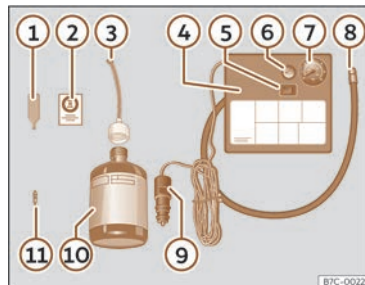

Fig. 214 Standard display: contents of the tyre mobility system.
The tyre mobility system is located underneath the floor covering in the luggage compartment. Includes the following components >>> **Fig. 214:**
- Unscrew the tyre valve cap and insert. Use the device >>> **Fig. 214 ①** to remove the valve cap. Place it on a clean surface.
- Shake the tyre sealant bottle vigorously >>> **Fig. 214 ⑩**.
- Screw the tyre inflation hose >>> **Fig. 214 ③** into the tyre sealant bottle. The bottle's seal will break automatically.
- Remove the filler cap >>> **Fig. 214 ③** and screw the open end of the tube into the tyre valve.
- Replace the valve insert with the device >>> **Fig. 214 ①** onto the tyre valve.
- Screw the tyre inflation tube of the compressor >>> **Fig. 214 ⑧** onto the tyre valve.
- Check that the air evacuation screw is closed >>> **Fig. 214 ⑥**.
- Attach the connector >>> **Fig. 214 ⑨** to the vehicle's 12 volt power outlet >>> page 238.
- Switch on the air compressor with the ON/OFF switch >>> **Fig. 214 ⑤**.
- Attach the sticker >>> **Fig. 214 ②** to the instrument cluster display, within the driver's field of vision.
Screw in the inflator tube >>> Fig. 214 ⑧ again and check the pressure on the gauge ⑦.